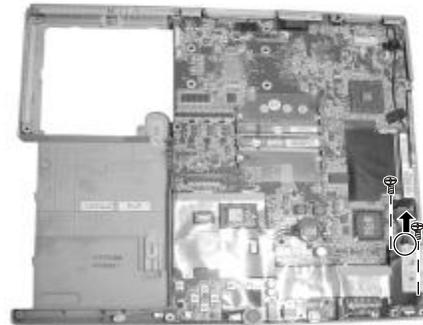

Figure 2-30 Remove the modem card
5. Remove two screws fastening the modem card. disconnect cord from system board. (Figure 2-30)